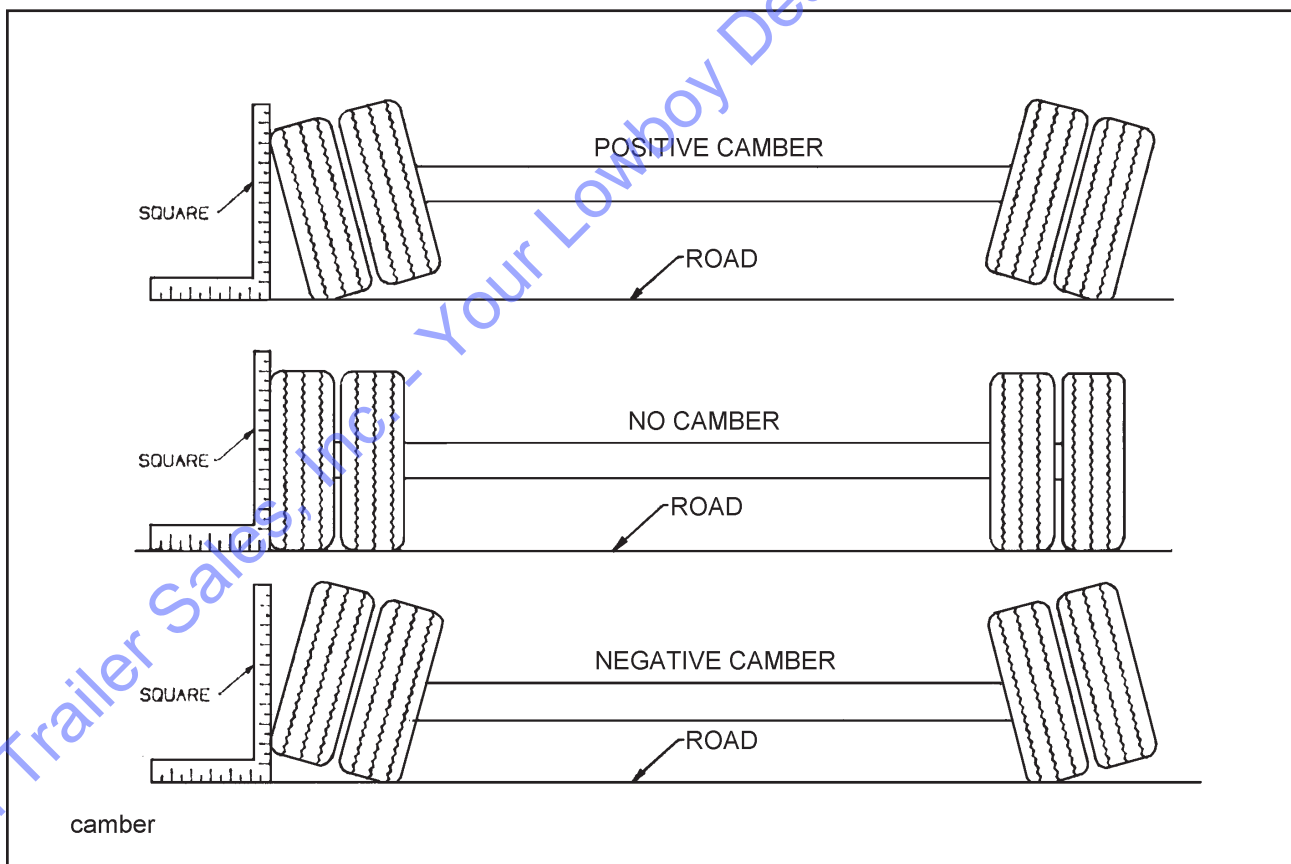

Figure 4-14 Examples of Camber
- d. Follow the same procedures as in **Section 4-7.1, 4-8.1 b. and c.**, except place the axle gauge above and below the axle. If gauge point gap is found, the axle has positive or negative camber. The trailer axle has no camber from the factory. If it is found to have positive or negative camber, axle replacement is necessary (**See Figure 4-14** for examples of camber).